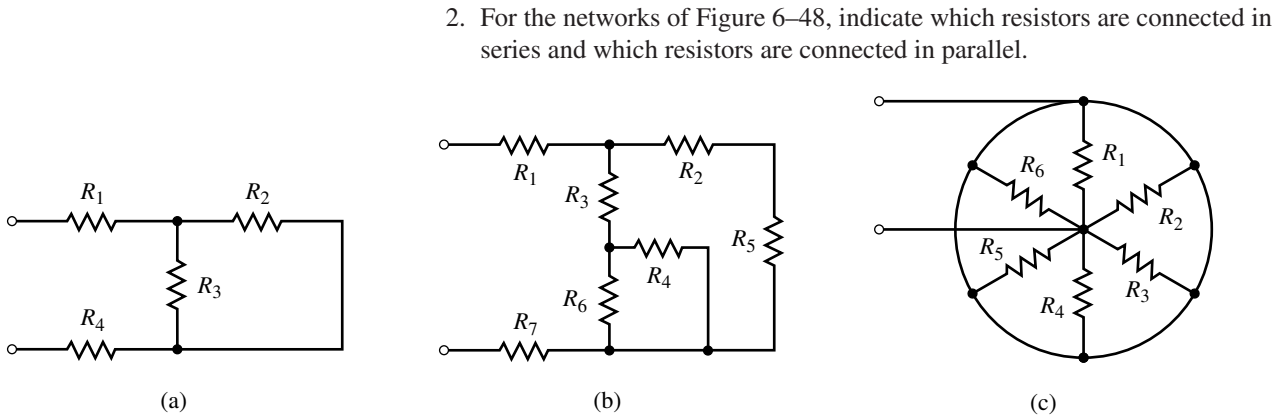

FIGURE 6–48
3. Without changing the component positions, show at least one way of connecting all the elements of Figure 6–49 in parallel.